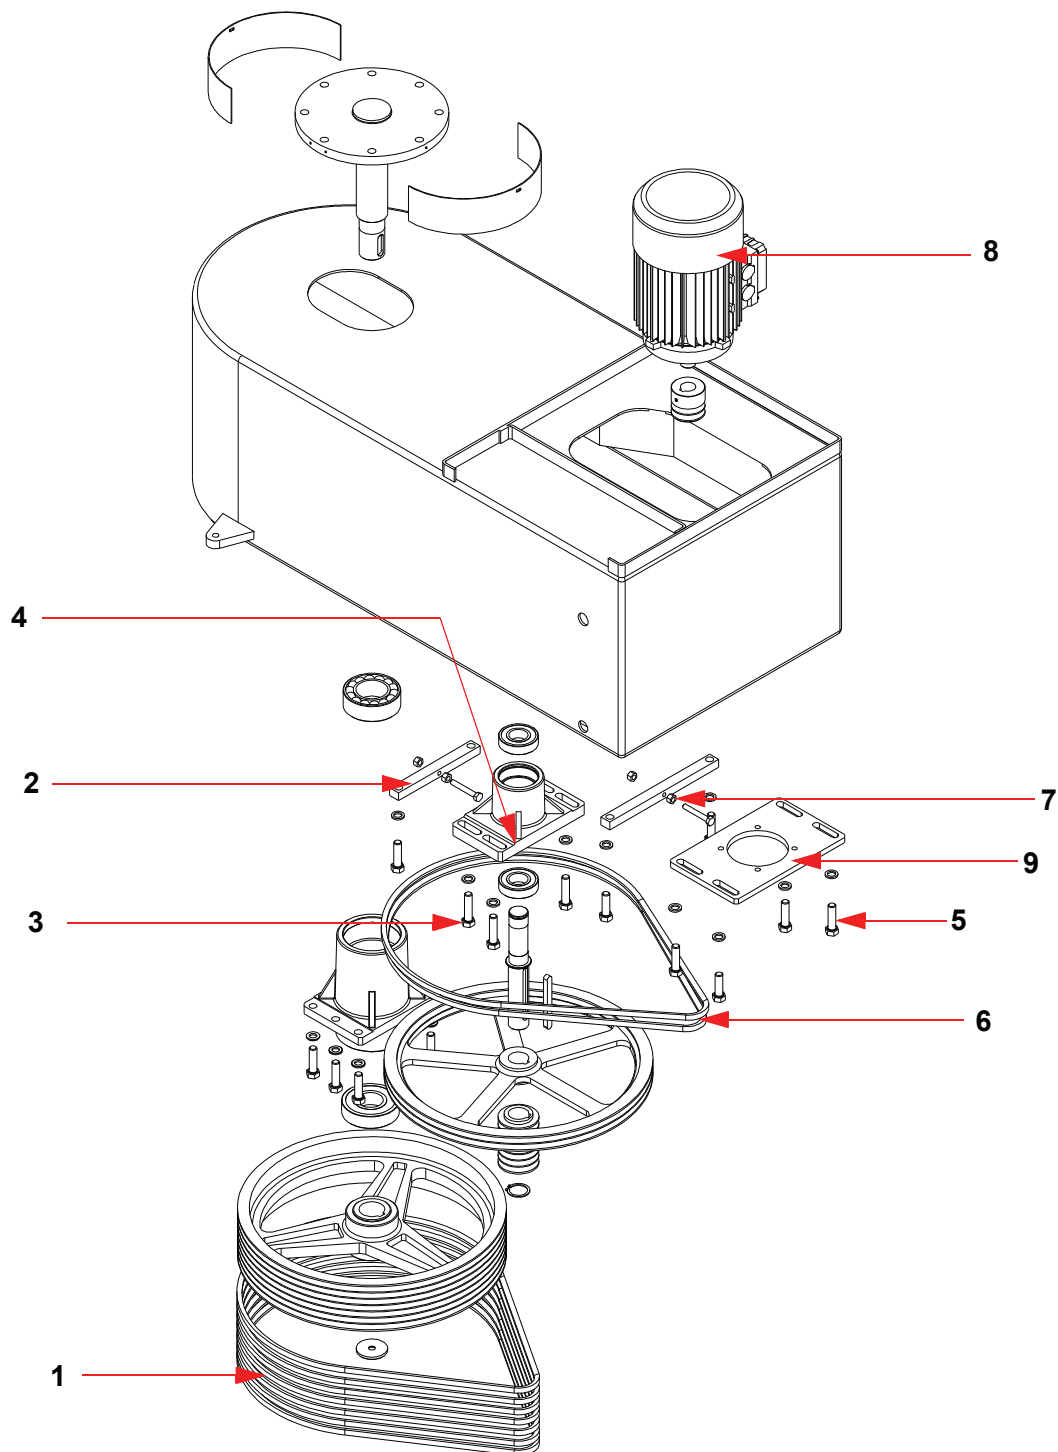

Fig. 13 Tub drive
The belts (**ref. 1 and ref. 6 Fig. 13** on page 48) must be replaced as soon as they show signs of wear or damage to the rubber of which they are made.
To replace the motor belts (**ref. 6 Fig. 13**), proceed as follows:
- 3) Slack off the screws securing the plate (**ref. 5 Fig. 13**).
- 4) Turn the nut (**ref. 7 Fig. 13**) until the subsequent operation is possible.
- 5) Extract the worn belt/s (**ref. 6 Fig. 13**).
- 7) Turn the nut (**ref. 7 Fig. 13**) in the opposite direction to that of point 3) until the belts are correctly tensioned, see **"7.4.1 Tension of belts" on page 44**.
- 8) Tighten the screws (**ref. 5 Fig. 13**).
To replace the tub drive belts (**ref. 1 Fig. 13**), proceed as follows:
- 3) Slacken off the screws securing the plate (**ref. 5 Fig. 13**).
- 5) Extract the motor belts (**ref. 6 Fig. 13**).
- 6) Slacken off the 4 screws (**ref. 3 Fig. 13**).
- 7) Turn the nut (**ref. 2 Fig. 13**) until the subsequent operation is possible.
- 8) Extract the worn belt/s (**ref. 1 Fig. 13**).
- 10) Turn the nut (**ref. 2 Fig. 13**) in the opposite direction to that of point 7) until the belts are correctly tensioned, see **"7.4.1 Tension of belts" on page 44**.
- 11) Tighten down the screws (**ref. 3 Fig. 13**).
- 12) Fit the motor belts (**ref. 6 Fig. 13**).
- 13) Turn the nut (**ref. 7 Fig. 13**) in the opposite direction to that of point 7) until the belts are correctly tensioned, see **"7.4.1 Tension of belts" on page 44**.
- 14) Tighten down the screws securing the plate (**ref. 5 Fig. 13**).
- 1) remove the belts (**ref. 6 Fig. 13** on page 48) see “**7.4.3 Replacing the tub drive belts**” on page 48;
- 2) slacken off the screws (**ref. 5 Fig. 13**) securing the motor (**ref. 8 Fig. 13**) to its mount (**ref. 9 Fig. 13**);